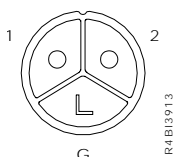

Figure 9. Receptacle Connector for RussellStoll 3743U-2 or 3913U-2
- Receptacle RussellStoll 3743U-2 (see Figure 9)
- Connector housing RussellStoll 3913U-2 (see Figure 9)